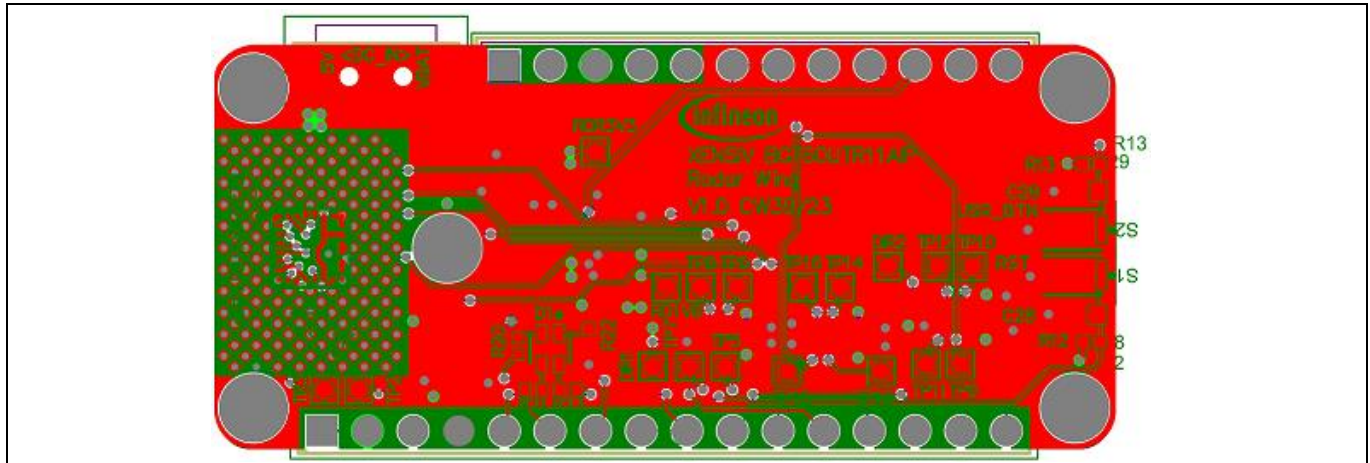

Figure 16 PCB layout of XENSIV™ BGT60UTR11AIP Radar Wing board
The size of the XENSIV™ BGT60UTR11AIP Radar Wing board is 43 mm (L) x 23 mm (W), as shown in Figure 16.